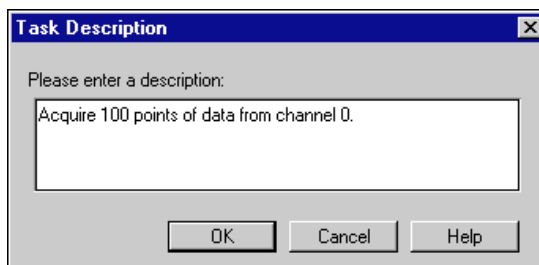

Figure 2-3. Task Description Dialog Box
6. Click on the **Description** button to add a description for your task under development, as shown in Figure 2-3. Type **Acquire 100 points of data from channel 0** in the Task Description dialog box, and click on the **OK** button.